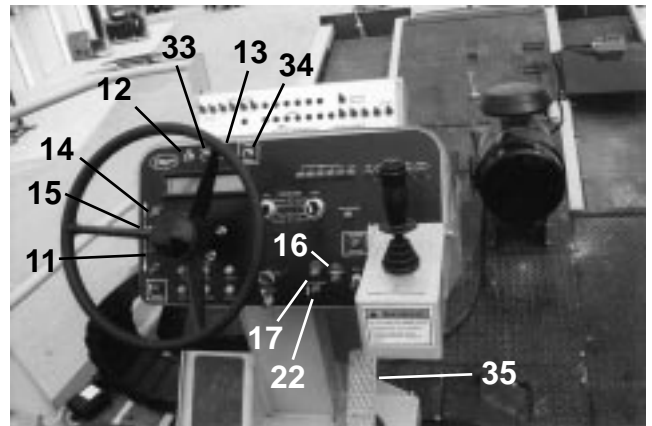

Figure 9. Control Panel
11,12,13. Turn Signal Selector and Indicators. (Figure 9)
14. Hazard Flasher Switch (Figure 9)
15. Headlight Switch (Figure 9)
16. Seat Shift Switch. (Figure 9) (Optional)
17. Hitch Release Pushbutton (Figure 9)
18. Hand Throttle Lever (Figure 9)
35. Brake Pedal (Figure 9)